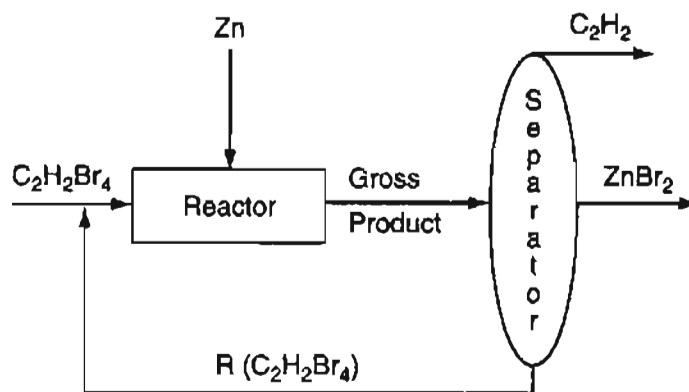

Figure P12.17
- *12.17 The reaction of ethyl-tetrabromide with zinc dust proceeds as shown in Figure P12.17.